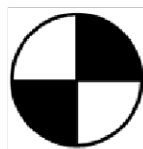

Figure 2-1 – Center of Gravity Symbol
2. All aircraft must have the fuselage clearly marked on both sides with a classic CG symbol (Figure 2.1) that is a minimum of 0.5 inches in diameter centered at the Empty CG position +/-0.25 inches, per the submitted 2D drawings. (Wing type aircraft may place the two CG markings on the bottom of the wing.)